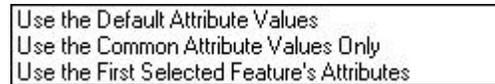

Figure 11
- c. how the attributes are to be assigned to the unioned feature (see Figure 11).